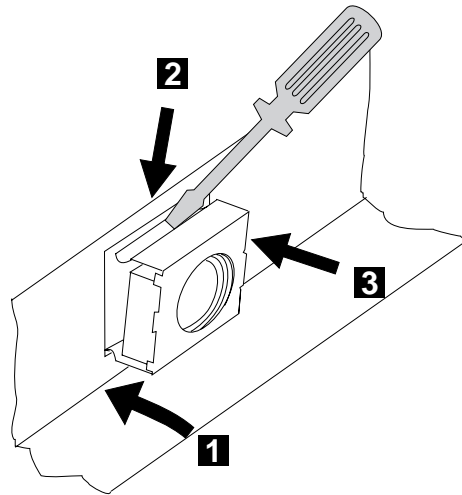

Figure 1-9. Installing the Captive Nuts
- \_\_\_ 10. Refer to Figure 1-9, and **install** (if necessary) the two captive nuts (PN 58G5766).